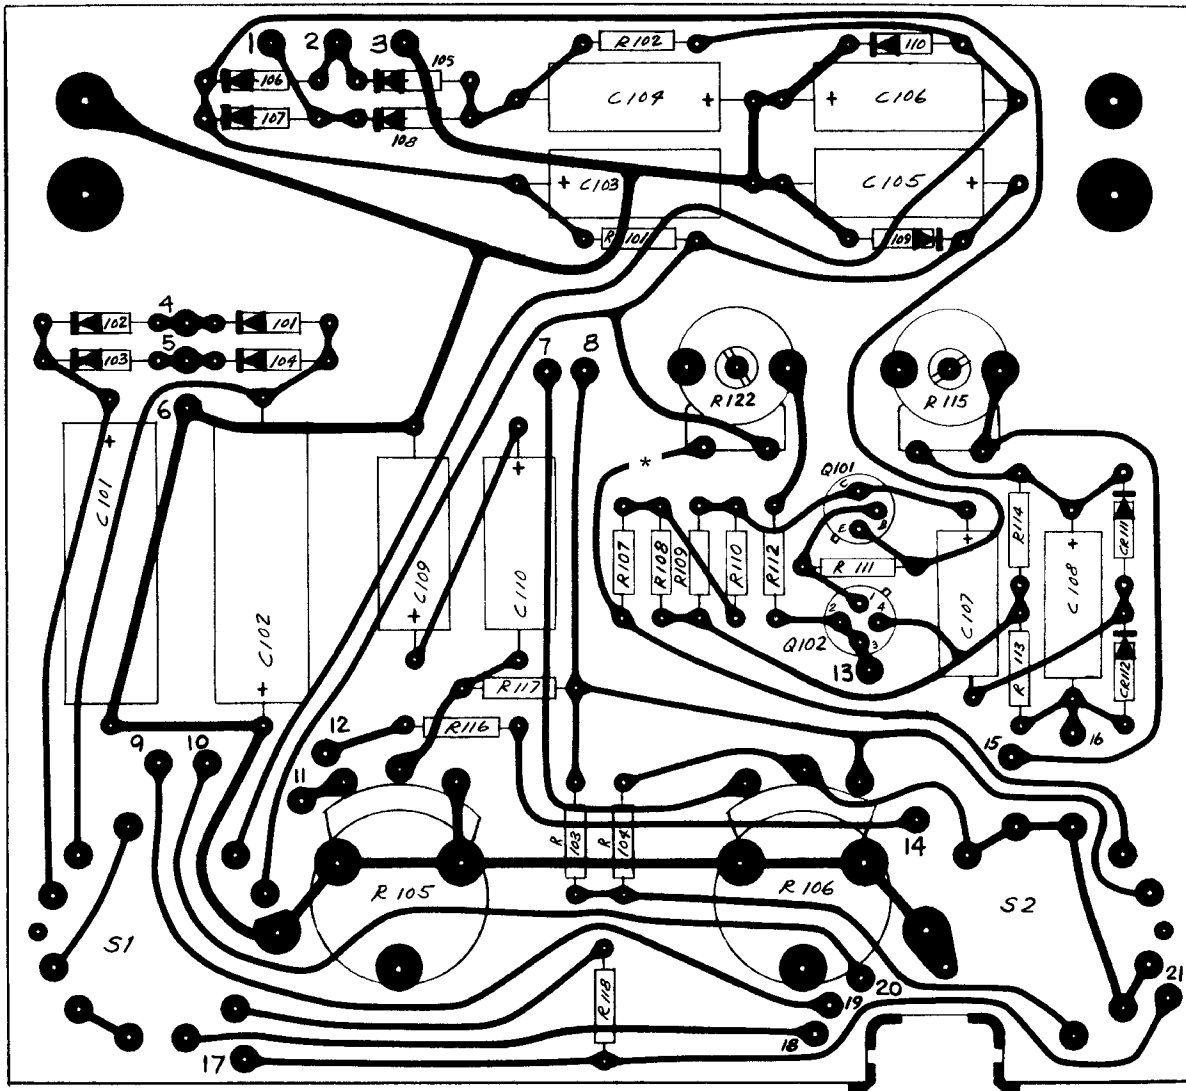

Figure 15. Component location.
The schematic diagram for the instrument is on page 20. Further aids to servicing include the Circuit Description, below, and Figure 15, showing the component layout on the main circuit board.
1. Set the Selector Switch to "DEP. N", and the Function Switch to "Gm CAL". Set internal calibration controls R115 and R122 (see Figure 15 for location) to mid-range.